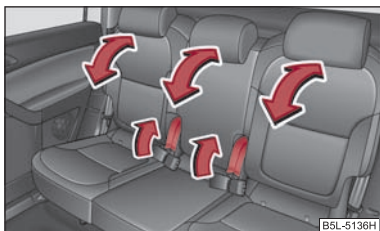

Fig. 63 Adjusting the seat backrest
- Pull the lever ⇒ fig. 63 and adjust the desired angle of the seat backrest. ■
- Pull on the levers ⇒ fig. 63 and fold the seat backrests of the rear exterior seats onto the seat cushion as far as the stop.
- Fold the middle rear seat backrest forwards in the same way, then pull once more on the lever ⇒ fig. 63 and press the seat backrest downwards until it is heard to lock into a lower position.